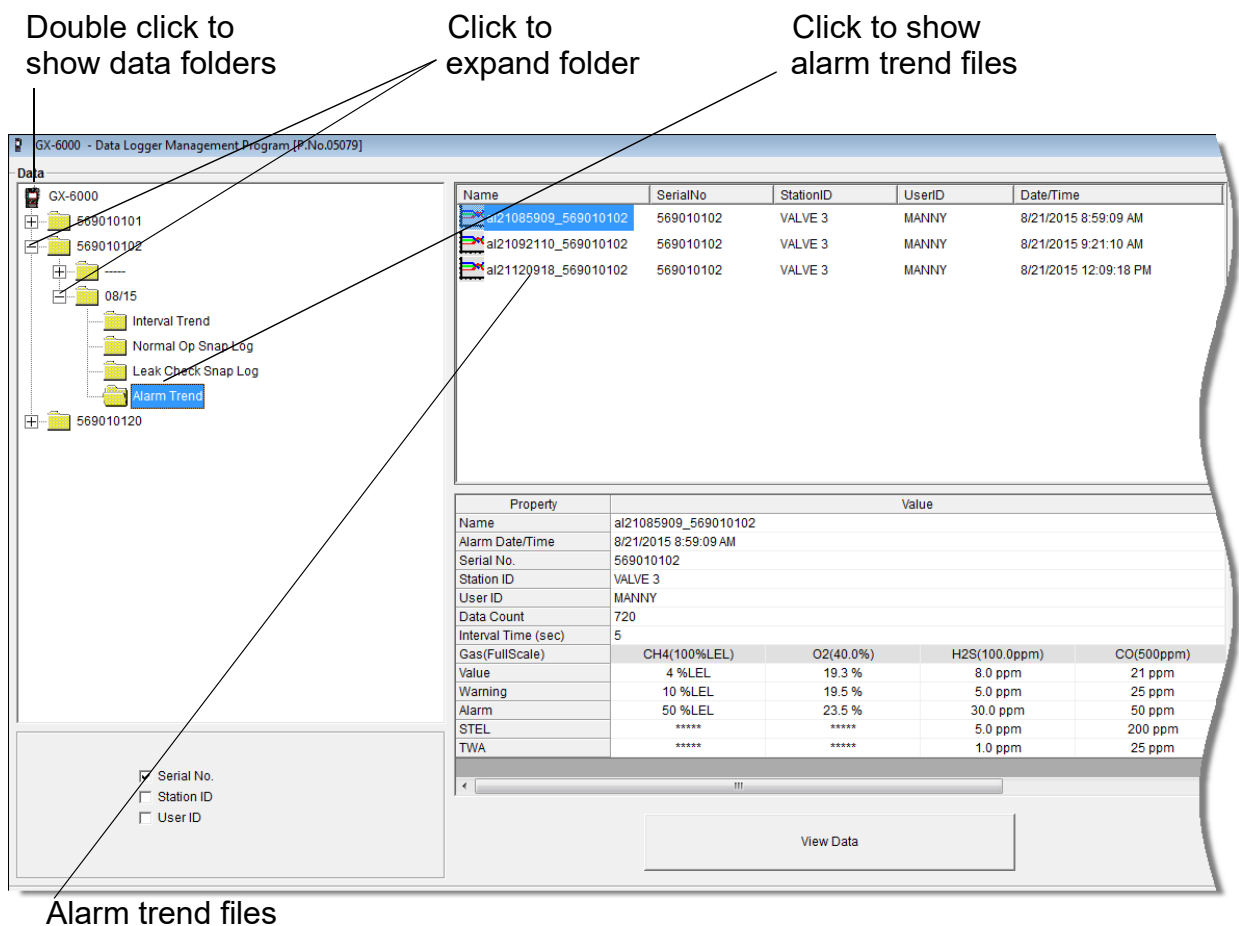

Figure 47: Data Window - Selecting Interval Trend Data Files
- If you click the **Summary** button, the data window will split into two frames, one above the other, with the data table in the lower frame and the summary information shown in the upper frame. The summary information is the same as the information shown in the lower right frame in Figure 47.
- If you click the **Summary** button, the data window will split into two frames, one above the other, with the graph in the lower frame and the summary information shown in the upper frame. The summary information is the same as the information shown in the lower right frame in Figure 47. To return to the one frame format, click **Summary** again.